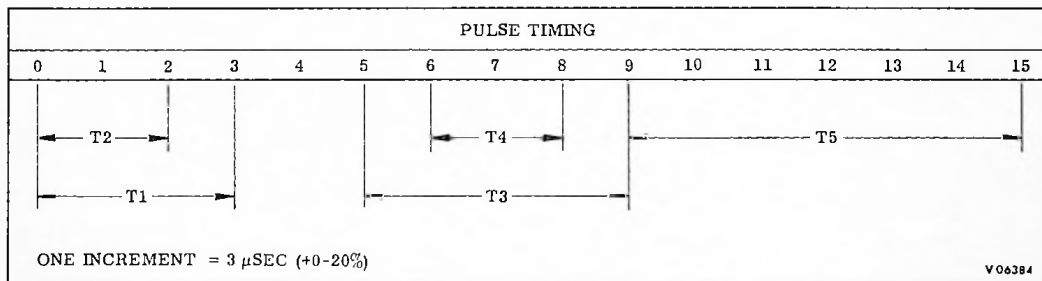

Figure 5.2-6. Pulse Timing Relationship, T1 through T5
- f. Sync the oscilloscope externally from TP011 (system). Starting times of T1 through T5 should be as shown in Figure 5.2-6.